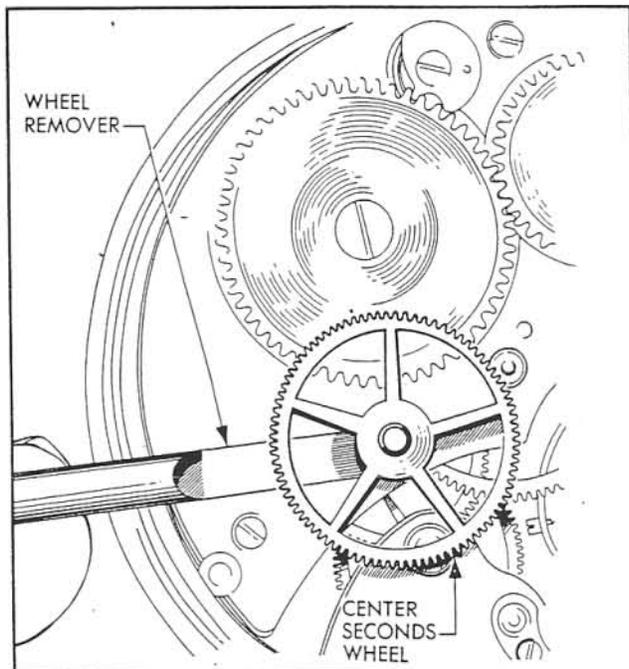

Figure 16—Removing Center Seconds Wheel
(5) CENTER SECONDS WHEEL.—Using a wheel remover, as shown in figure 16, gently pry off the center seconds wheel.